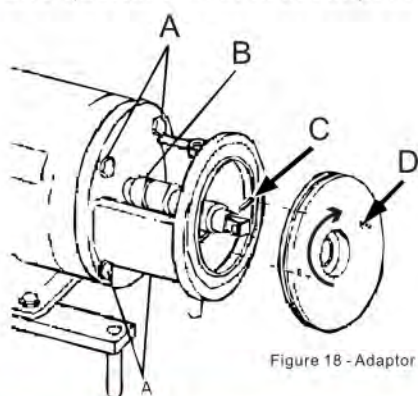

Figure 18 - Adaptor Installation
- 4.1 Install the adapter to the motor, with the drain cavity at the bottom. Insert the four bolts to secure the adapter to the motor. Tighten the bolts. (See Figure 18 item A).
- 4.3 Place the stub-shaft assembly onto the motor shaft. (See Figure 18 item B). Do not tighten the shaft set screws.
- 4.4 Install the backplate on the adapter and rotate until the backplate pins engage the adapter pins, (See Figure 18 item D and C), assuring solid contact of the backplate to the adapter.
- 4.6.1 Place a  $0.060" \pm .010"$  (1.52 mm  $\pm .25$  mm) Feeler Gauge between the front face of the backplate and the impeller. (See Figure 18 item A).
- 4.6.2 Push the stub-shaft/impeller assembly toward the motor until the impeller (See Figure 18 item E) rests against the Feeler Gauge.
- 4.6.3 Tighten the two set screws on the stubshaft. (See Figure 18 item B).
- 4.6.4 Check with a Feeler Gauge that the clearance between rear face of the impeller and the front (inside) face of the backplate is  $0.060" \pm .010"$  (1.52 mm  $\pm .25$  mm) (See Figure 18 item A).